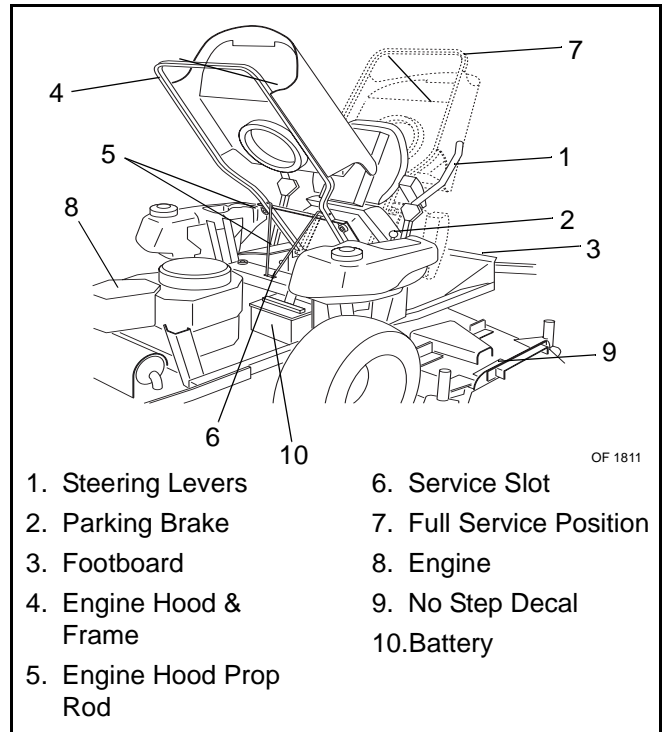

Figure 4
2. Unhook hood latches. Firmly grasp hood frame handle and lift to the desired service position (Figure 4).